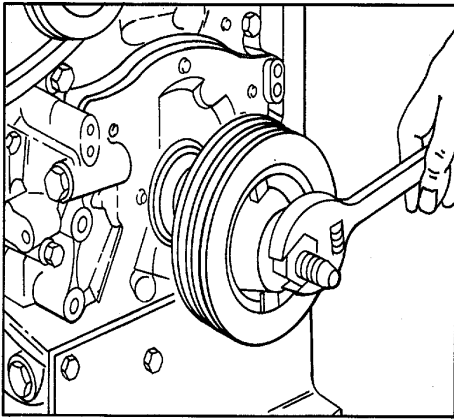

Figure 2. Installing Crankshaft
4. Install a rigid-type pulley on an in-line or 6V engine with installer J 7773 as shown in Fig. 2. Then remove the installer.